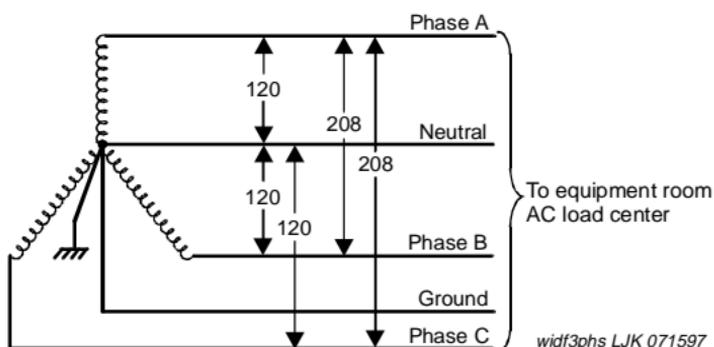

Figure 19. Three Phase, 4-Wire, 120/208 VAC, 60 -Source
- Three-phase, 4-wire, 120/208 VAC supplying 208 VAC. See Figure 19. This source has 2 hot wires and 1 ground wire.